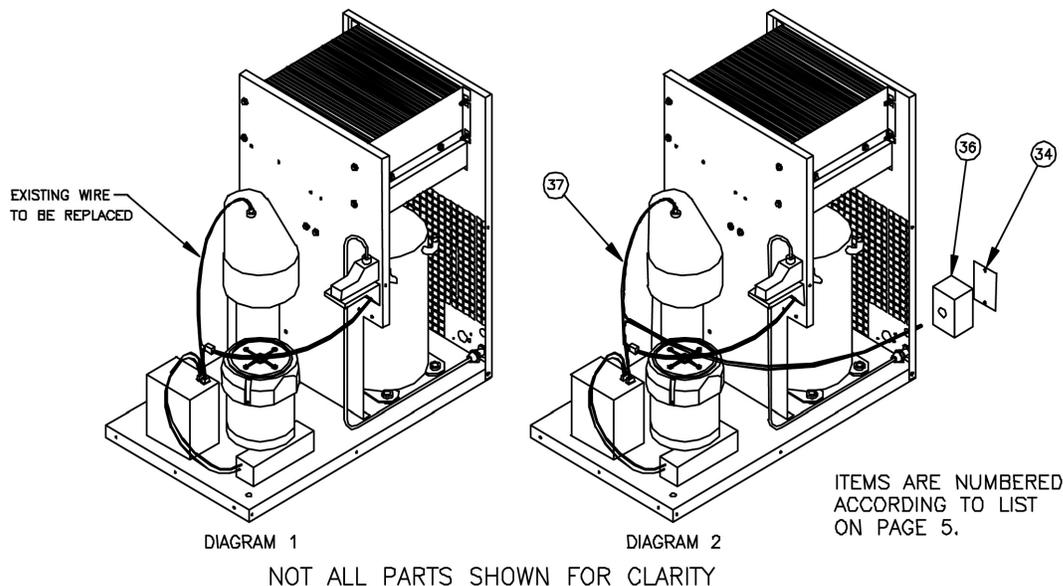

Figure 1.
1. Install unit on top of Roll-O-Matic frame assembly (See Figure 1).
4. To remove existing wire cable (Figure 1, Diagram 1).
5. To install new wire cable (Figure 1, Diagram 2).